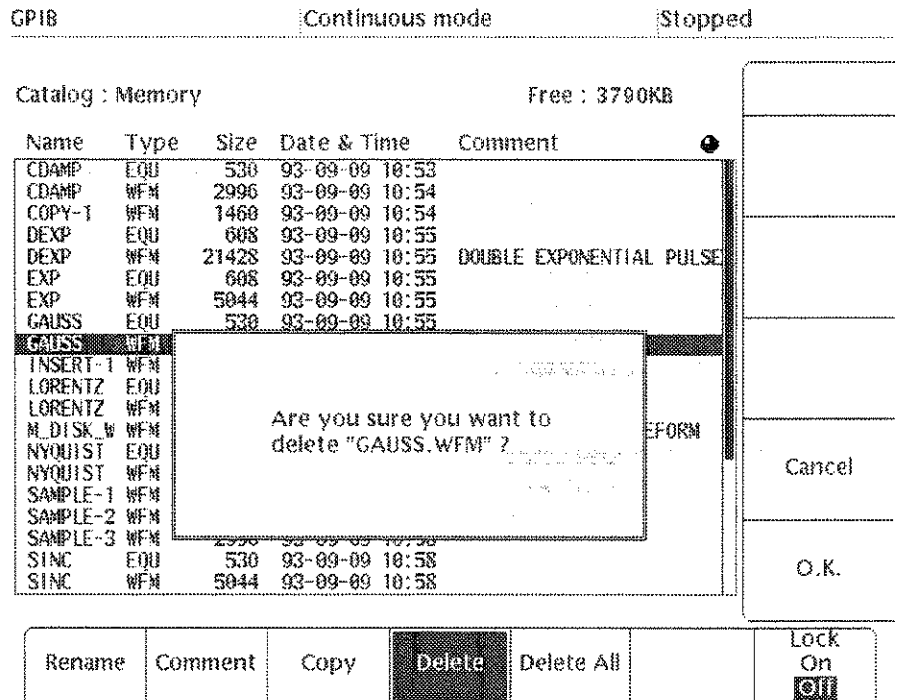

Figure 4A-4: Menu Displayed When Delete is Selected
- Step 2:** Select **Delete** from the bottom menu. This instrument asks you if you are sure you want to delete the selected file. See Figure 4A-4.
- Step 2:** Press the **Lock** bottom menu button. The selected file is locked and **On** is selected for the **Lock** label. Locked files have "*" next to their names in the display. See Figure 4A-5.